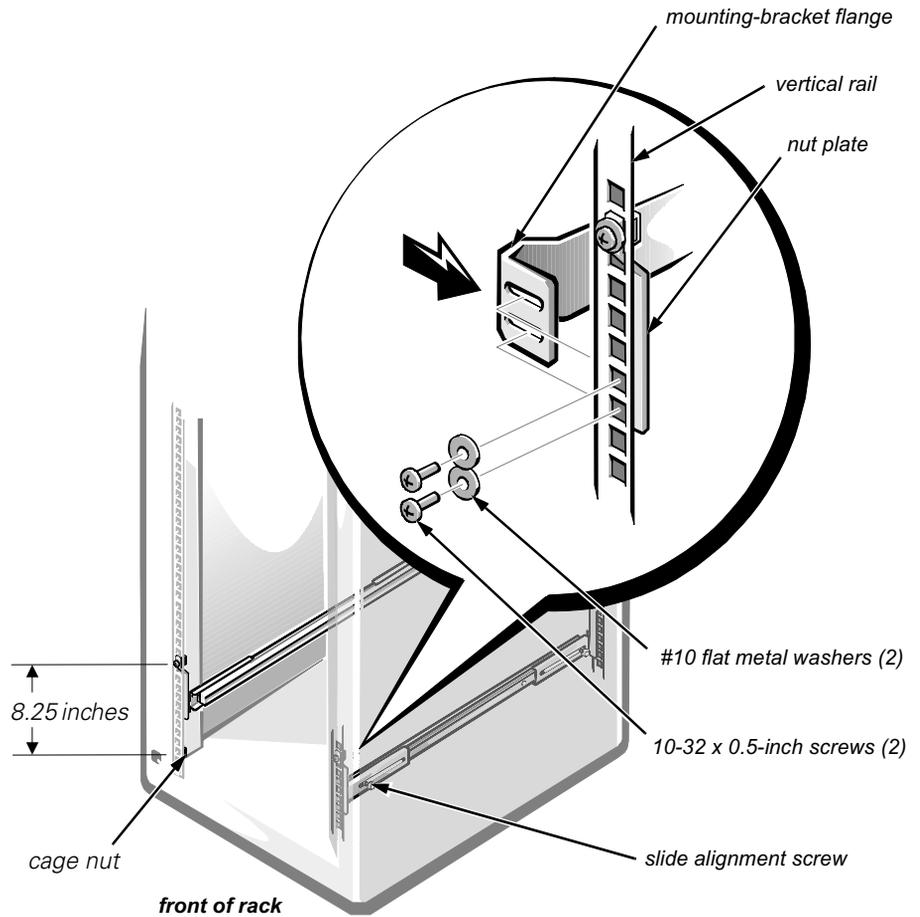

Figure 6. Installing the Slide Assemblies
- 3. Using a Phillips screwdriver, slightly loosen the slide alignment screw that holds the front slide-mounting bracket to the exterior slide (see Figure 6).**
- a. Insert the slide's mounting-bracket flange between the nut plate and the rack's vertical rail as shown in Figure 6.
- b. Position the mounting bracket at the back of the slide assembly so that its two slots are aligned with the two lowest holes in the nut plate (see Figure 6). Secure the mounting bracket with two 10-32 x 0.5-inch Phillips-head screws and two #10 flat metal washers. Do *not* completely tighten the two mounting screws until you install the computer and verify that the width between the slide assemblies is correct.
6. Install one cage nut in each front vertical rail for the rack-adapter thumbscrews (see Figure 6).